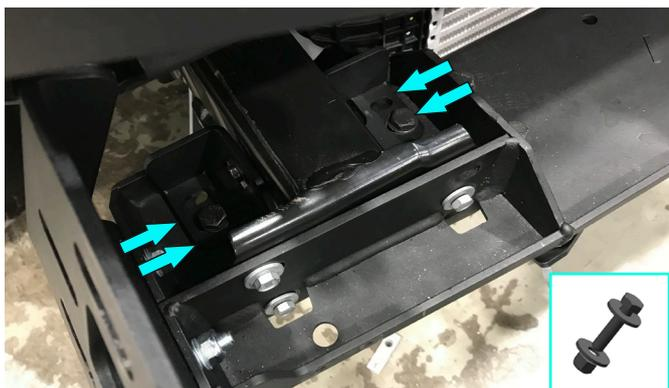

Fig.24
24. Fix winch bracket on brackets for reinforcement using bolts M10x30, nuts M10, washers 10 (item F, Q, K) (fig.24).